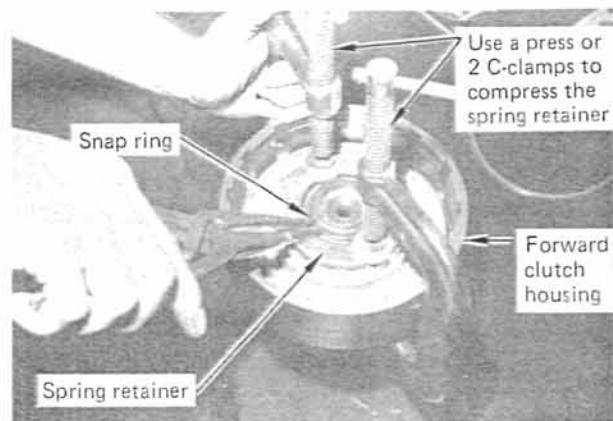

FIGURE 21
**STEP 2.** Place the housing in a press or use two C-clamps to compress the piston return springs and retainer. (See Fig. 21) Remove the retainer snap ring and relax tension on the retainer slowly. Remove retainer, sixteen return springs and forward clutch piston. Note the color code of the springs. Remove and discard two rubber lip seals from the piston and one rubber lip seal from the housing. The forward clutch assembly is ready to clean.